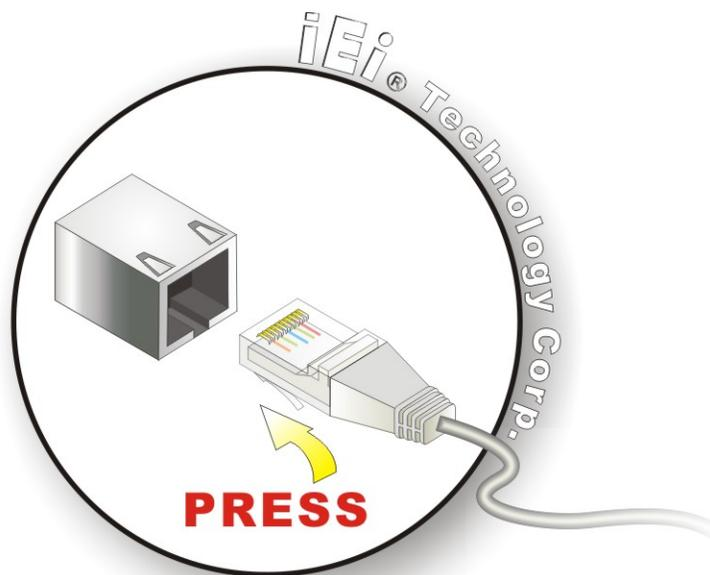

Figure 5-16: LAN Connection
Step 2: Align the connectors. Align the RJ-45 connector on the LAN cable with one of the RJ-45 connectors on the WAFER-MARK. See **Figure 5-16**.